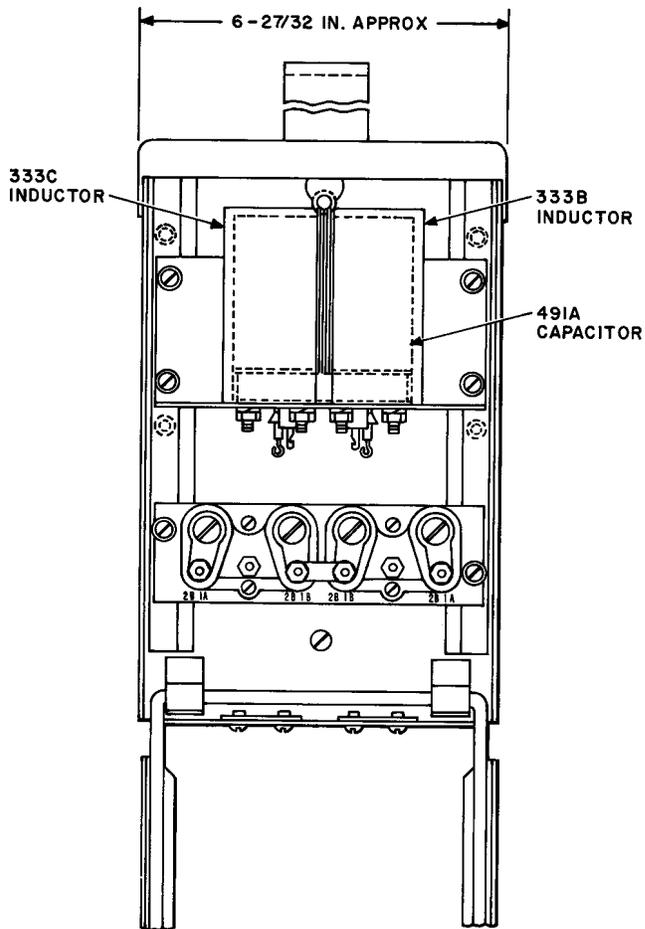

Fig. 2—108C Protector
2.03 The 108-type protector is designed to reduce voltages that are induced in C Rural Wire as a result of close exposure to power circuits. The voltage induced in a telephone circuit depends principally on the voltage of the power circuit to ground and the distance between the telephone wires and the power wires. The 108-type protectors act to reduce such induced voltages. Each protector provides drainage for one pair. The 108B and 108C Protectors may be used on C Rural Wire operating at voice and/or carrier frequencies. The 108A Protector should be used only on C Rural Wire operating at voice frequency. The 108C Protector (Fig. 2) should be used where moisture and snow cause troubles due to shorting out the exposed protector blocks furnished with the older 108-type protectors.